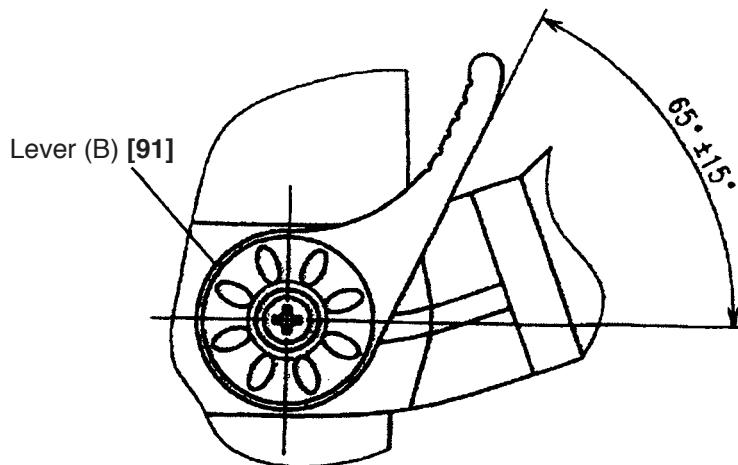

Fig. 13
(1) Reassembly of Lever (B) [91] to the Housing Holder [73]
Mount Base (B) [97] and the Housing Holder [73]. Push the Lock Screw [90] in as far as it will go. Hook the Lock Spring [89] on both the Housing Holder [73] and Lever (B) [91]. Being careful not to loosen the Lock Screw [90], turn Lever (B) [91]. When Lever (B) [91] is positioned as shown in Fig. 13, insert the Lock Screw [90] into Lever (B) [91] and secure them with the Machine Screw (W/Washers) M4 x 12 (Black) [81].